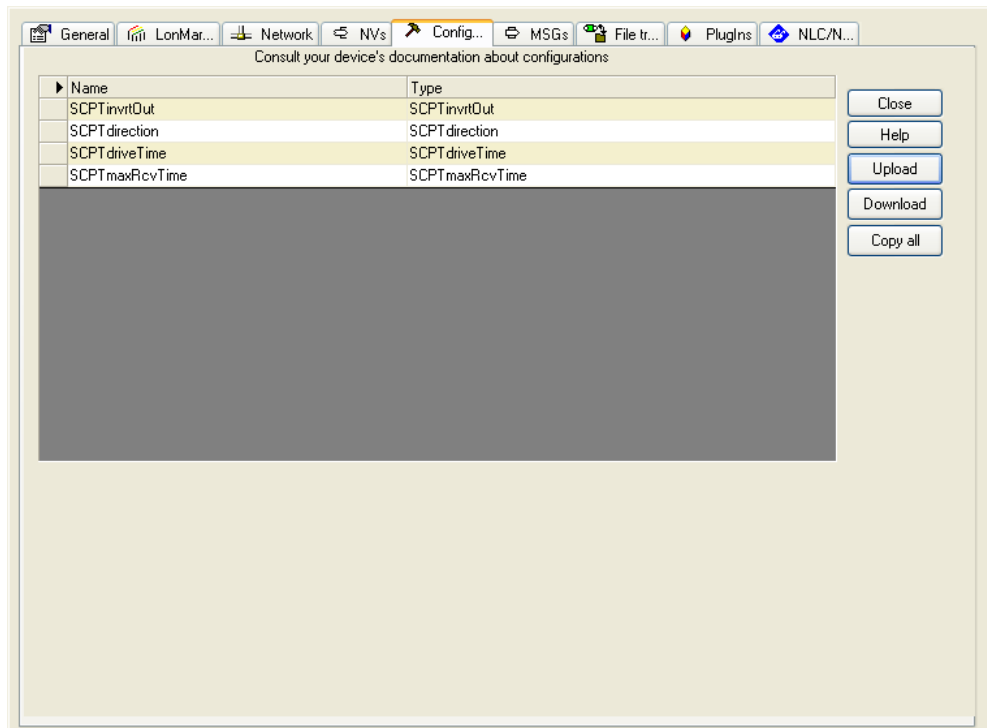

Figure 36: Configuration Tab for Configuration Properties in NL220.
2. Press the **Upload** button on the Configuration tab of the device properties (see Figure 36).